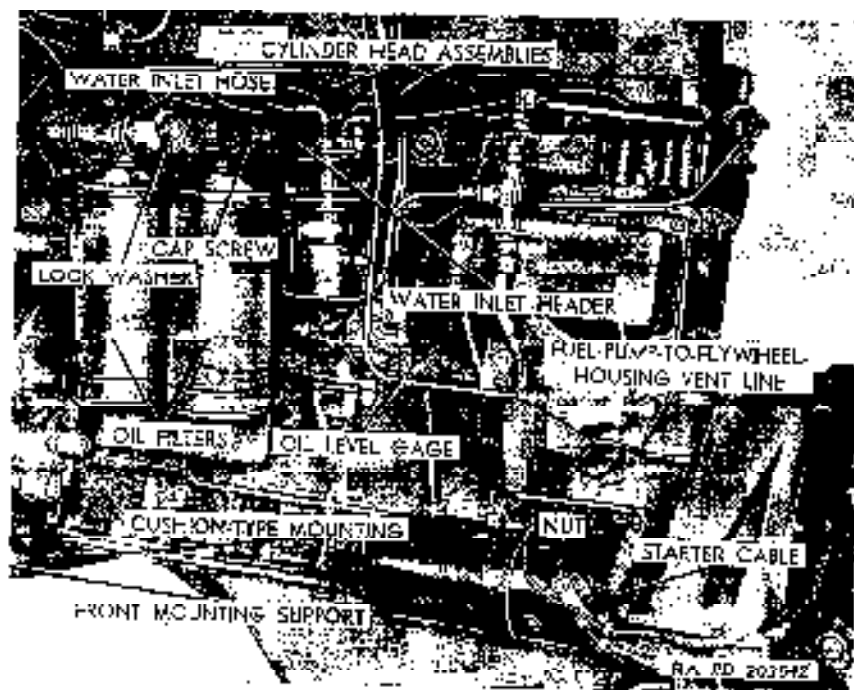

Figure 117. View of left rear section of engine.
(2) *Engine mountings.* The front of the engine is bolted at each side with cushion-type mountings (fig. 117) to the front mounting support, which is bolted to the frame No. 1 cross member. The flywheel housing at the rear of the engine is bolted to cushion-type mountings (fig. 118) attached to the frame left and right side rails.
- (5) *Oil filters.* Two replaceable-element oil filters (fig. 117) are mounted on the left side of the engine. When the engine is running, a portion of the engine oil is continuously passed through the filtering elements and returned to the crankcase.